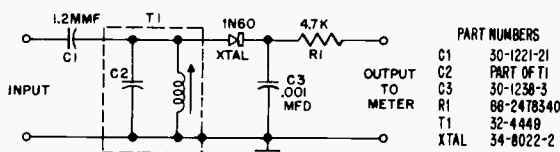

Figure 1. 4.5 mc. Detector Tube
- (1) Inject 4.5 MC AM signal into L18D or use station signal.
- (2) Connect 4.5 MC detector (see circuit, figure 1) to L1D (pin 2 of CRT).